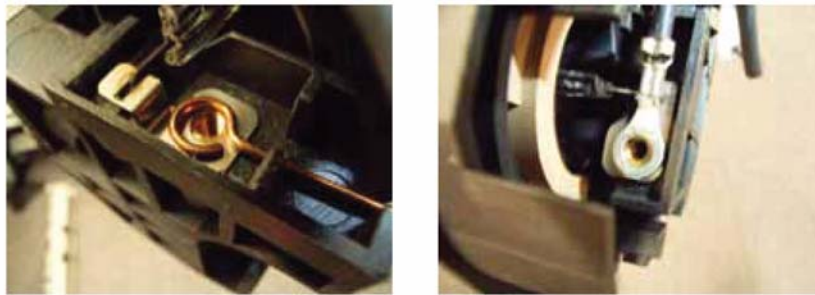

Figure 5
2. When reassembling, be careful to set the fusing lamp on the frame first, then set the terminals, Figure 5.